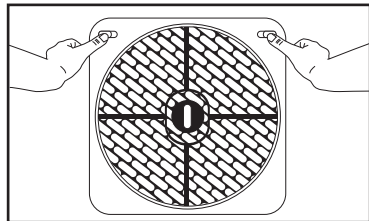

Fig. 14
1. Open the rear grill by gently pushing the release tabs toward the outside of the unit. See Fig. 14